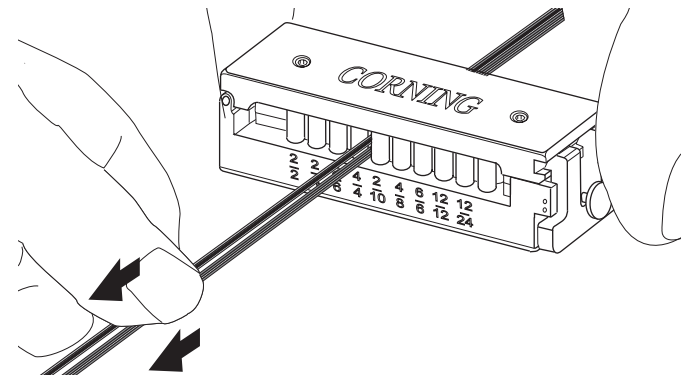

Figure 12
Step 4: Push in and hold the slider button on the end of the tool as you smoothly pull the 0.5-meter length of ribbon through the channel to the end of the ribbon (Figure 12).